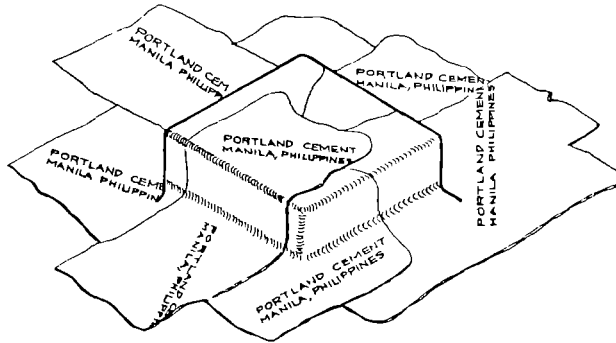

Figure 7. Inside Form for Hatch Cover
Level a one (1) meter by one (1) meter area near the well site. Construct the hatch cover forms as described in Handout 5-8, p.12. Lay the small cover form in the center of the leveled area. Fill the inside of the form with dirt and pack it firmly. Cover the form with wet cement bags or damp newspaper. Shape them until they conform to the contour of the small cover form (Figure 7).